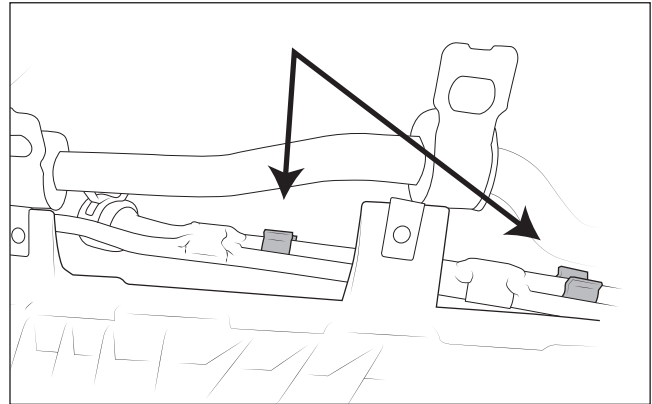

Figure 13
- d. Remove the clips holding the AC lines to the air box (Fig. 13).